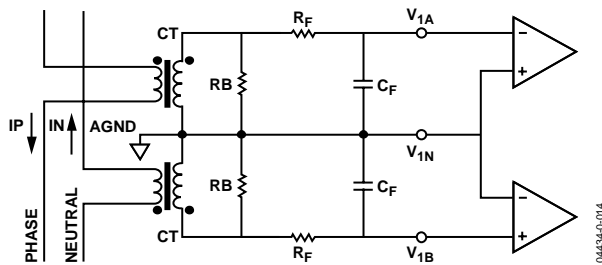

Figure 11. Typical Connection for Channel 1
Figure 11 shows a typical connection diagram for Channel V1. The analog inputs are being used to monitor both the phase and neutral currents. Because of the large potential difference between the phase and neutral, two current transformers (CTs) must be used to provide the isolation. Note that both CTs are referenced to AGND (analog ground); the common-mode voltage is, therefore, 0 V. The CT turns ratio and burden resistor (RB) are selected to give a peak differential voltage of  $\pm 660$  mV.